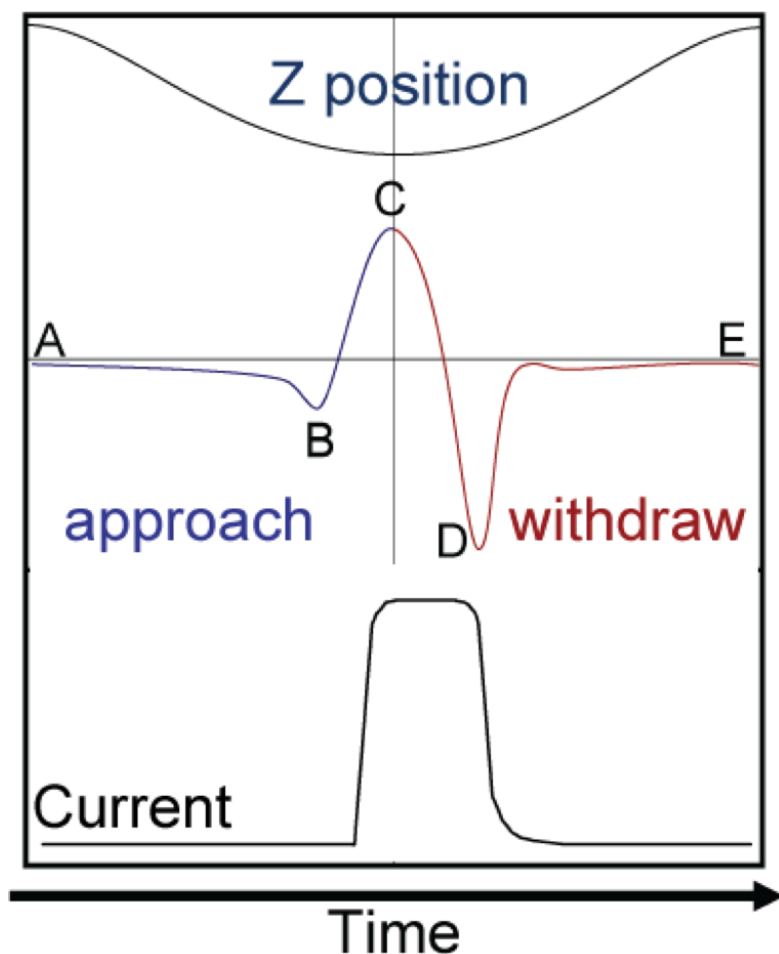
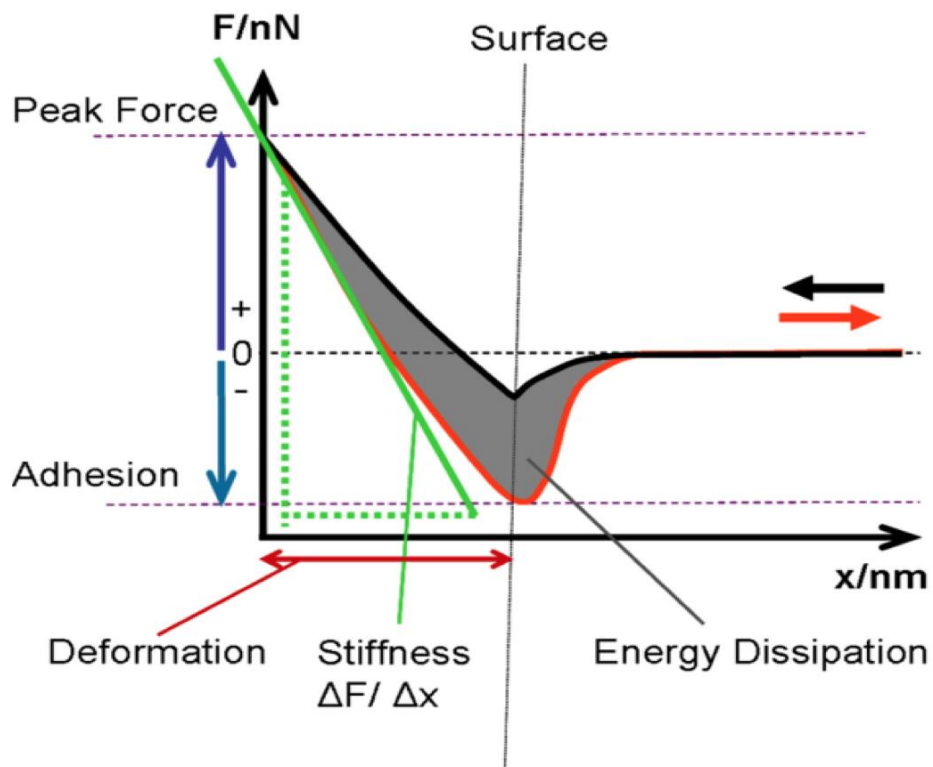

Figure S1: Analysis of forces curves designed as "heartbeat curves" from Bruker' user manual.
Figure S2: Evaluation of the physico-chemical and mechanical properties from each individual force–distance curve.
The PFQNM is a new technique based on the real-time analysis of force–distance curves recorded at a frequency of about 2 kHz. As a consequence, the acquisition times for obtaining an image remain reasonable. The principle of PeakForce QNM mode is based on force curve analysis to extract information about tip–substrate adhesion, material modulus, and dissipated energy when tip gets in contact with the substrate. When the approach–withdrawal curves are plotted against time as shown in Figure S1, the signal is close to that of a "Heartbeat" and thus has been called "Heart Beat Curves" by Bruker.
The force curve plotted against time (Figure S1) shows the first contact of the probe with the sample (B), the maximum force (C) and the point of adhesion (D). As a function of the Z displacement, these data transformed into a force curve (Figure S2) determine an interaction force between the tip and the surface. Local and real-time mechanical properties of the sample such as adhesion, Young's modulus, energy dissipation, deformation in addition to the surface topography are determined as shown in Figure S2: